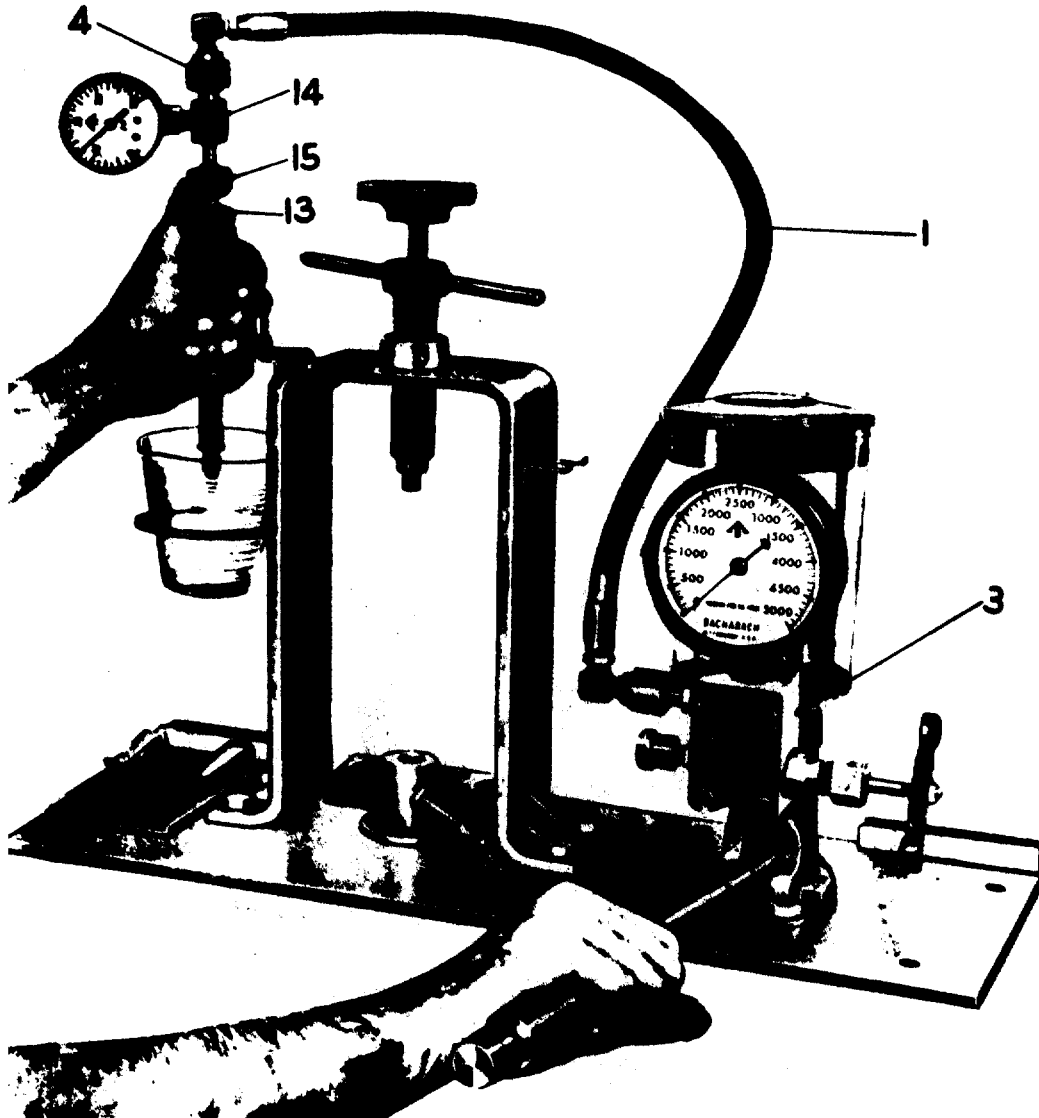

FIG. 2 Inlet Connection Opening Test
Prepare inlet connection for test by removing brass connection and strainer screen from inlet connection. Assemble ADAPTER (13) to inlet connection and attach LOW PRESSURE GAUGE (14) with UNION CONNECTION (15) as illustrated in Figure 2. Attach FLEXIBLE CONNECTION (1) to LOW PRESSURE GAUGE with CONNECTOR NUT (4). Using TESTER (3), determine that opening pressure of check valve in inlet tube is within limits specified in engine manual; opening point of valve is best determined by pumping slowly.